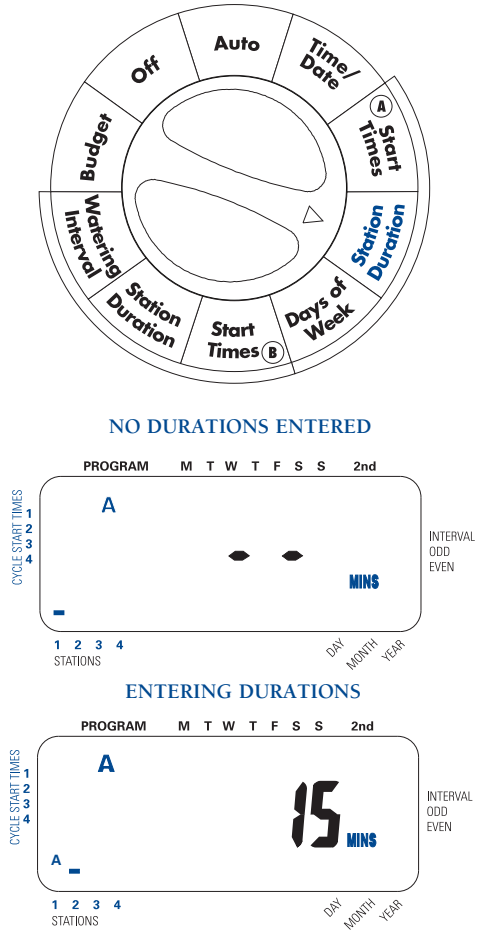

Figure 4: Entering Duration for "Program A"
- Turn the rotary dial to the **STATION DURATION** position in “Program A”. The display will show an “A” and MINS. [See Figure 4]
- Press and hold the **▲** or **▼** key to enter the watering duration and press the **ENTER** key. You should see an “A” over the Station just programmed. [See Figure 4]